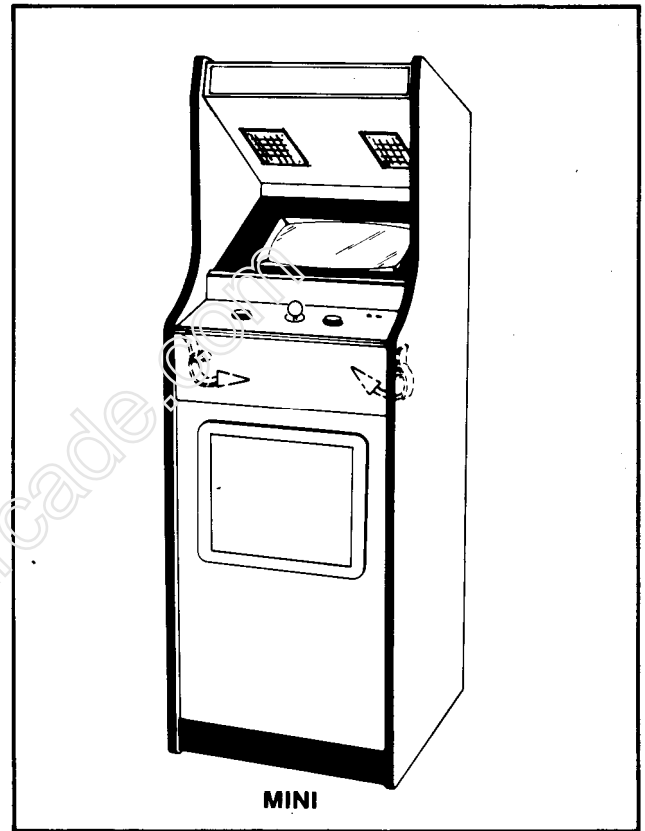

Figure 2-3 Opening the Control Panel - Mini
### 2.4.2 MINI MODEL: (See Figure 2-3)
- ☐ The control panel is held in place by two latches. See Figure 2-3.